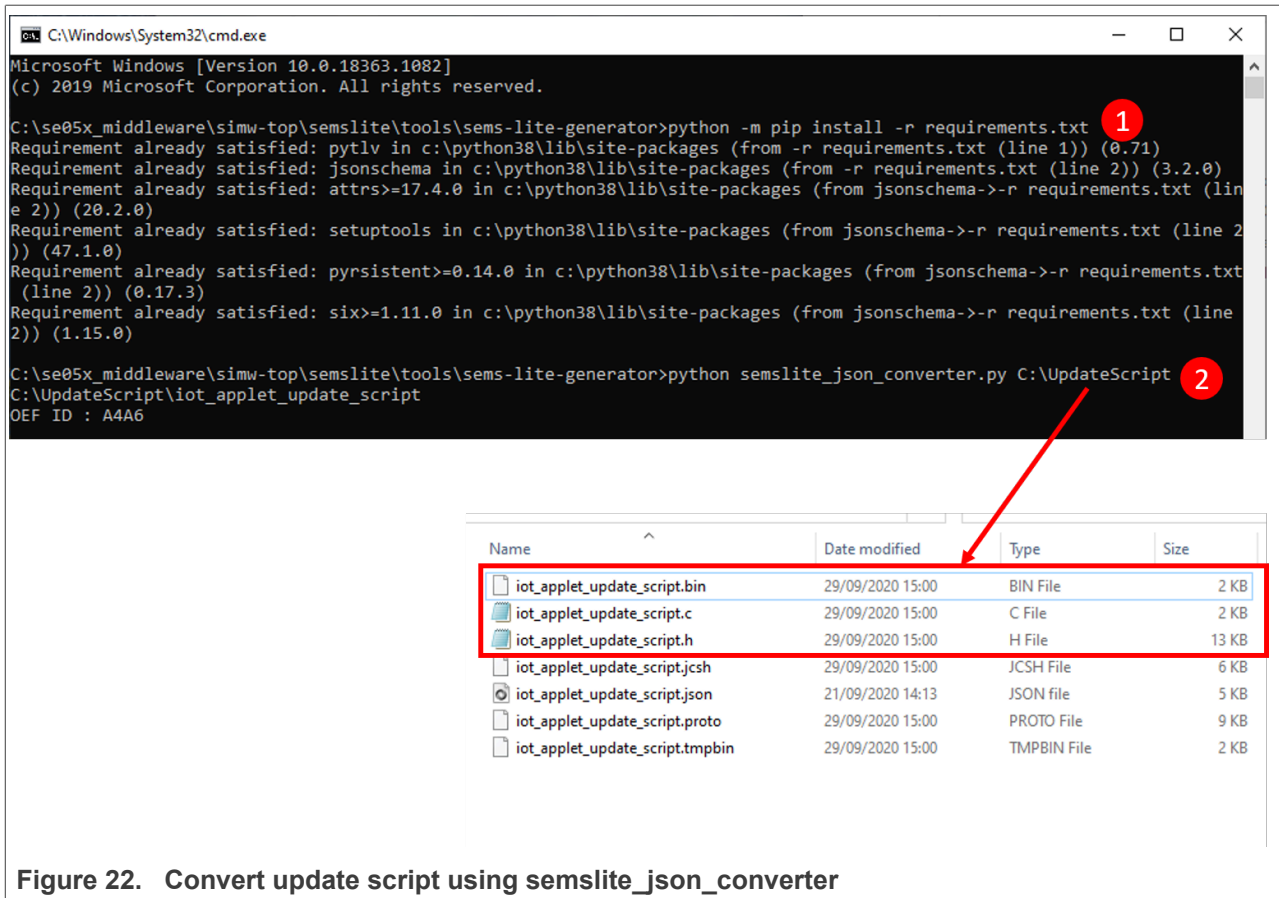

Figure 22. Convert update script using semslite\_json\_converter
4. Install the Python required dependencies necessary to run the `semslite_json_converter` tool and then convert the IoT applet update script as shown in Figure 22: